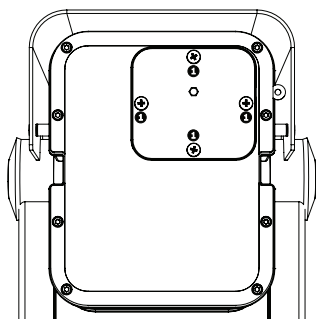

Figure 6.1 Rear camera housing with access panel
1. Unscrew the four (4) captive screws (item 1 in *Figure 6.1*) of the access panel on the rear of the camera housing.